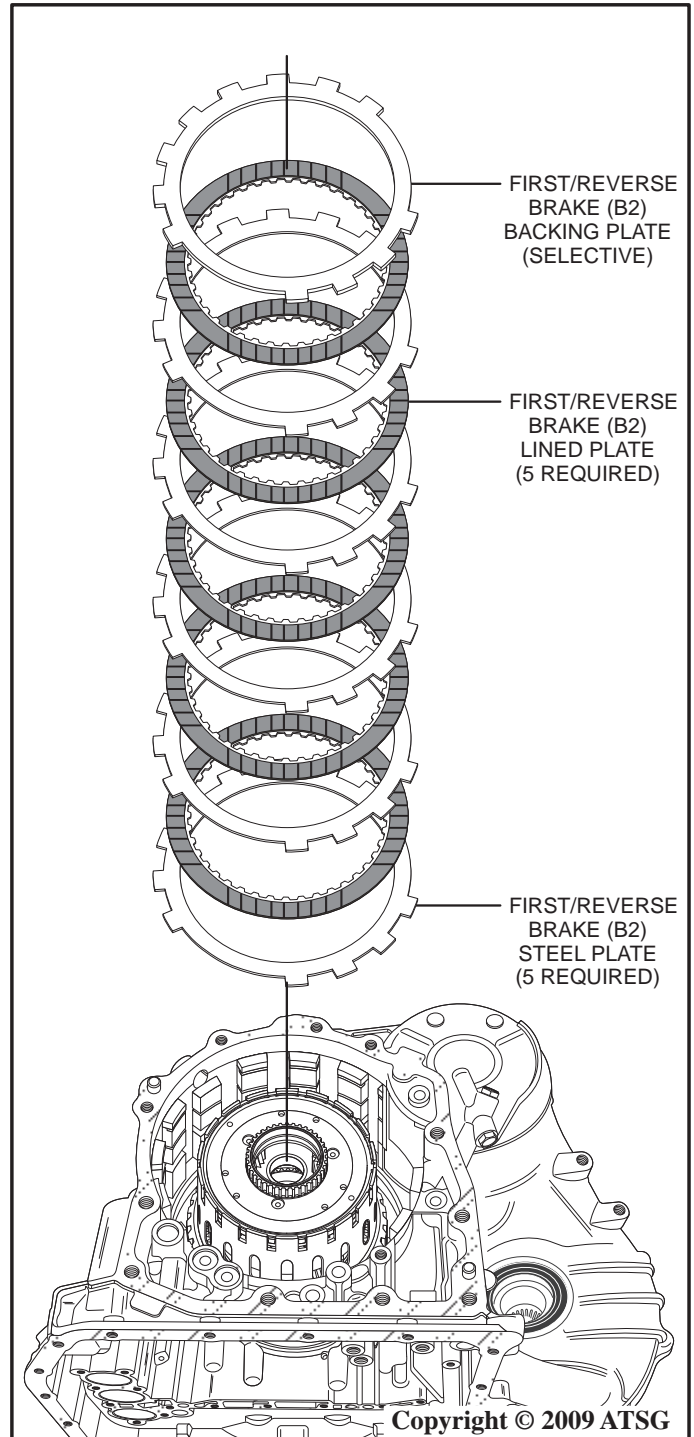

Figure 158
25. Install the first/reverse brake (B2) clutch plates into the case beginning with a steel plate, then alternating frictions and steels until there are five steel plates and five lined plates in the case as shown in Figure 158.
26. Install the first/reverse brake (B2) backing plate (selective) as shown in Figure 158.